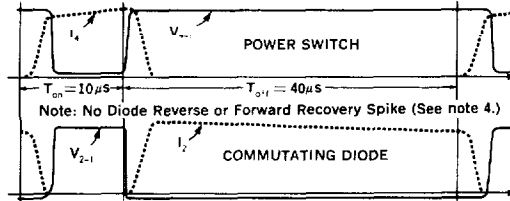

Figure 2. PIC625, 626, 627 Switching Waveforms
- No reverse recovery spike generated by commutating diode (See note 4. and Fig. 2.)
- In switching an inductive load, the current will lead the voltage on turn-on and lag the voltage on turn-off (see Figure 2). Therefore, Voltage Delay Time ( $t_{dv}$ )  $\approx t_{di} + t_{ri}$  and Current Storage Time ( $t_{si}$ )  $\approx t_{sv} + t_{fv}$ .
- As can be seen from the switching waveforms shown in Figure 2, no reverse of forward recovery spike is generated by the commutating diode during switching! This reduces self-generated noise, since no current spike is fed through the switching regulator. It also improves efficiency and reliability, since the power switch only carries current during turn on.